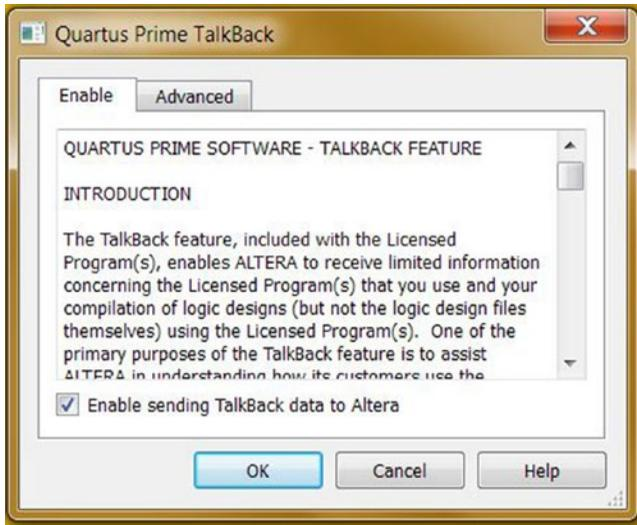

Figure 3-19. *Quartus Prime TalkBack*
8. In order to use the free edition, you need to enable sending TalkBack data to Altera (Figure 3-19). Check **Enable sending TalkBack data to Altera** and Click **OK**.